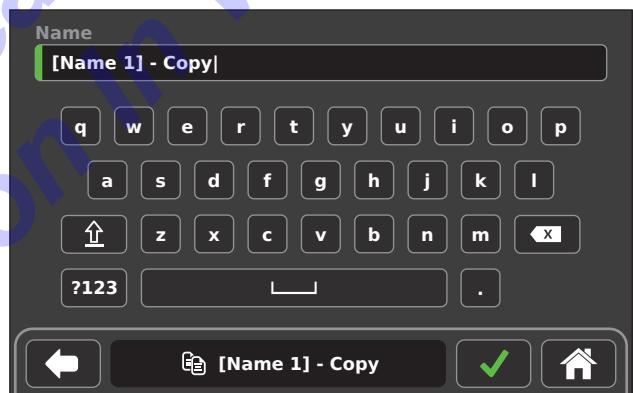

Figure 65 – Rename Preset
3. Using the keyboard, edit the preset name (Figure 65).